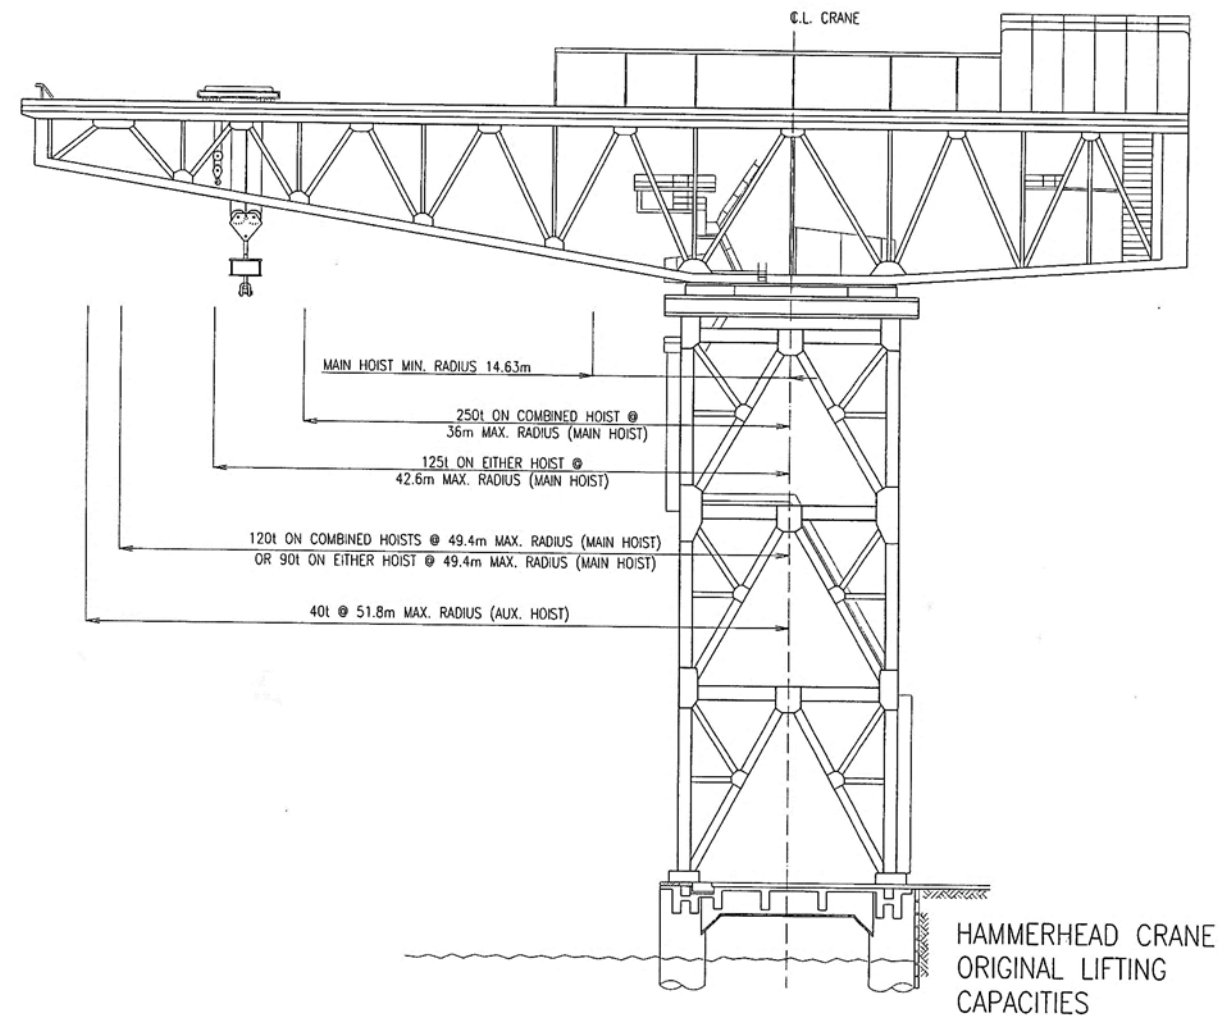

Figure 7: Hammerhead Crane Original Lifting Capacities (Source: Robert Bird & Partners, 2003, Condition Study of the Hammerhead Crane)
- Under the main motor room was the ballast box for the counterweights. The counterweight was made up of 3954 cast iron blocks, each weighing 156 pounds (70.0 kg). The total counterweight weighed 275 ton. The original lifting capacities of the crane are shown in Figure 7.